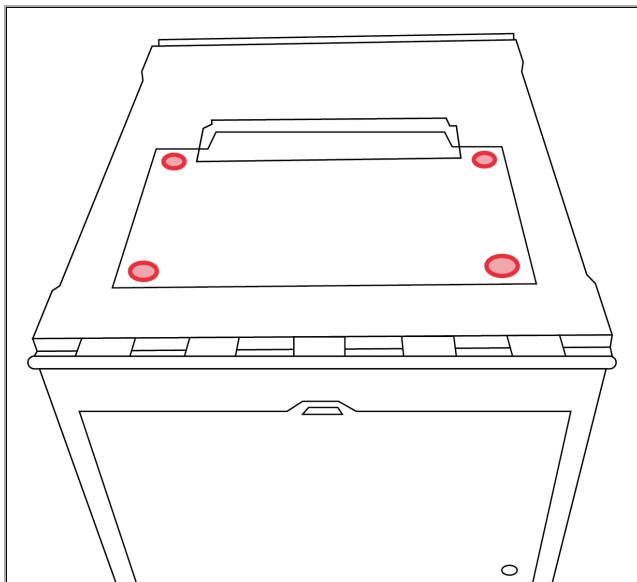

Figure 3-13. Four foot holes and front engagement latch in the upright position for placement of the ClearCast unit on the ballot box lid
6. Place the ClearCast voting station onto its footprint on the ballot box lid by fitting its four feet into the corresponding holes (Figure 3-13).